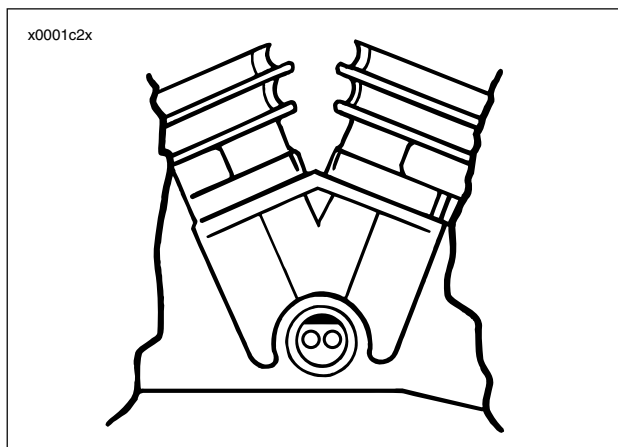

Figure 1-51. Advance Timing Mark
- b. See Figure 1-51. Front cylinder advance timing mark should be centered in timing inspection hole.
4. See Figure 1-51. With timing light aimed into inspection hole, rotate sensor until front cylinder advance timing mark is centered in timing inspection hole.
See Figure 1-51. When ignition timing does retard, the front cylinder advance timing mark disappears from view in the timing inspection hole.